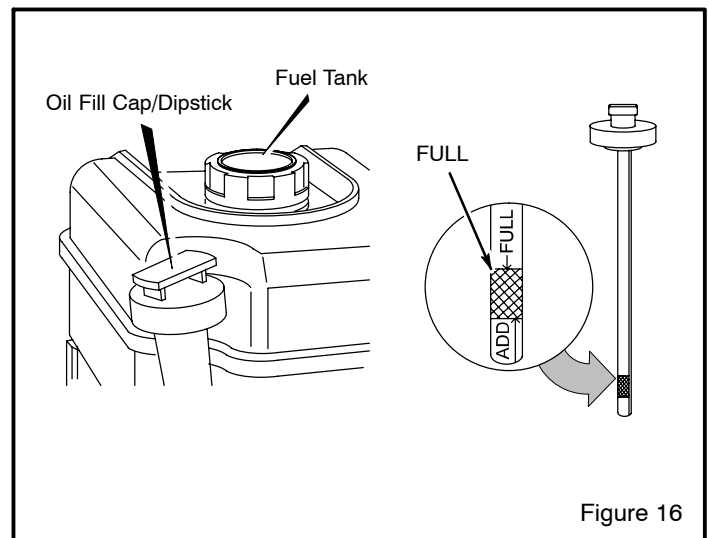

Figure 16
2. Remove the oil fill cap/dipstick and wipe with a clean cloth (see Figure 16).
5. If necessary, add oil until the oil reaches the FULL mark on the oil fill/cap dipstick (see Figure 16). Do not add too much oil.